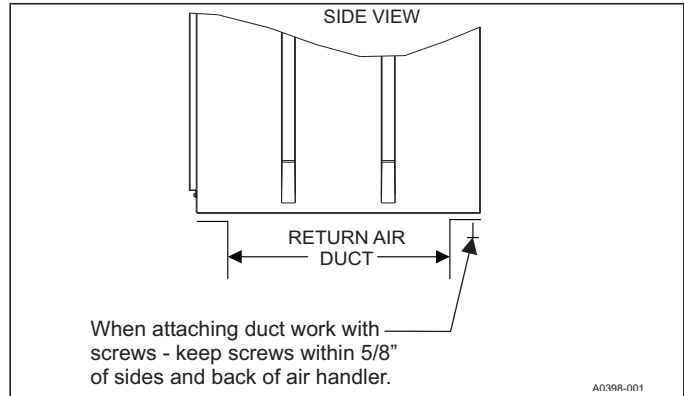
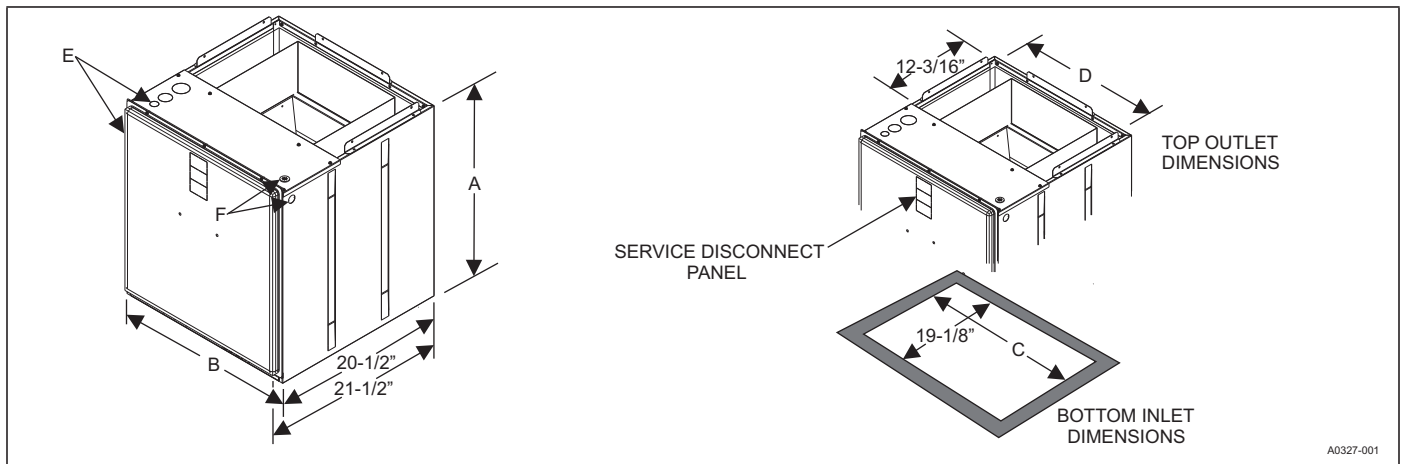

FIGURE 1: Return Air Duct Attachment
FIGURE 5: Dimensions & Duct Connection Dimensions
6. The unit rating plate displays the air handler model number. The unit dimensions for the supply air plenum are provided in Figure 5 and Table 1 of this Instruction Manual. The plenum must be installed according to the instructions. The return air duct attachment is shown in Figure 1.
1. The size of the unit should be based on an acceptable heat loss or gain calculation for the structure. The ACCA – Manual J or other approved methods may be used. Reference Figure 5 and Table 1.
Field supplied low voltage wiring can exit the unit through the top right (when unit is vertical upflow) or the right side panel. Refer to Figure 5. Remove desired knockout and pierce foil faced insulation to allow wiring to pass through. Use as small of a hole as possible to minimize air leakage. Install a 7/8" plastic bushing in the selected hole and keep low voltage wiring as short as possible inside the control box.